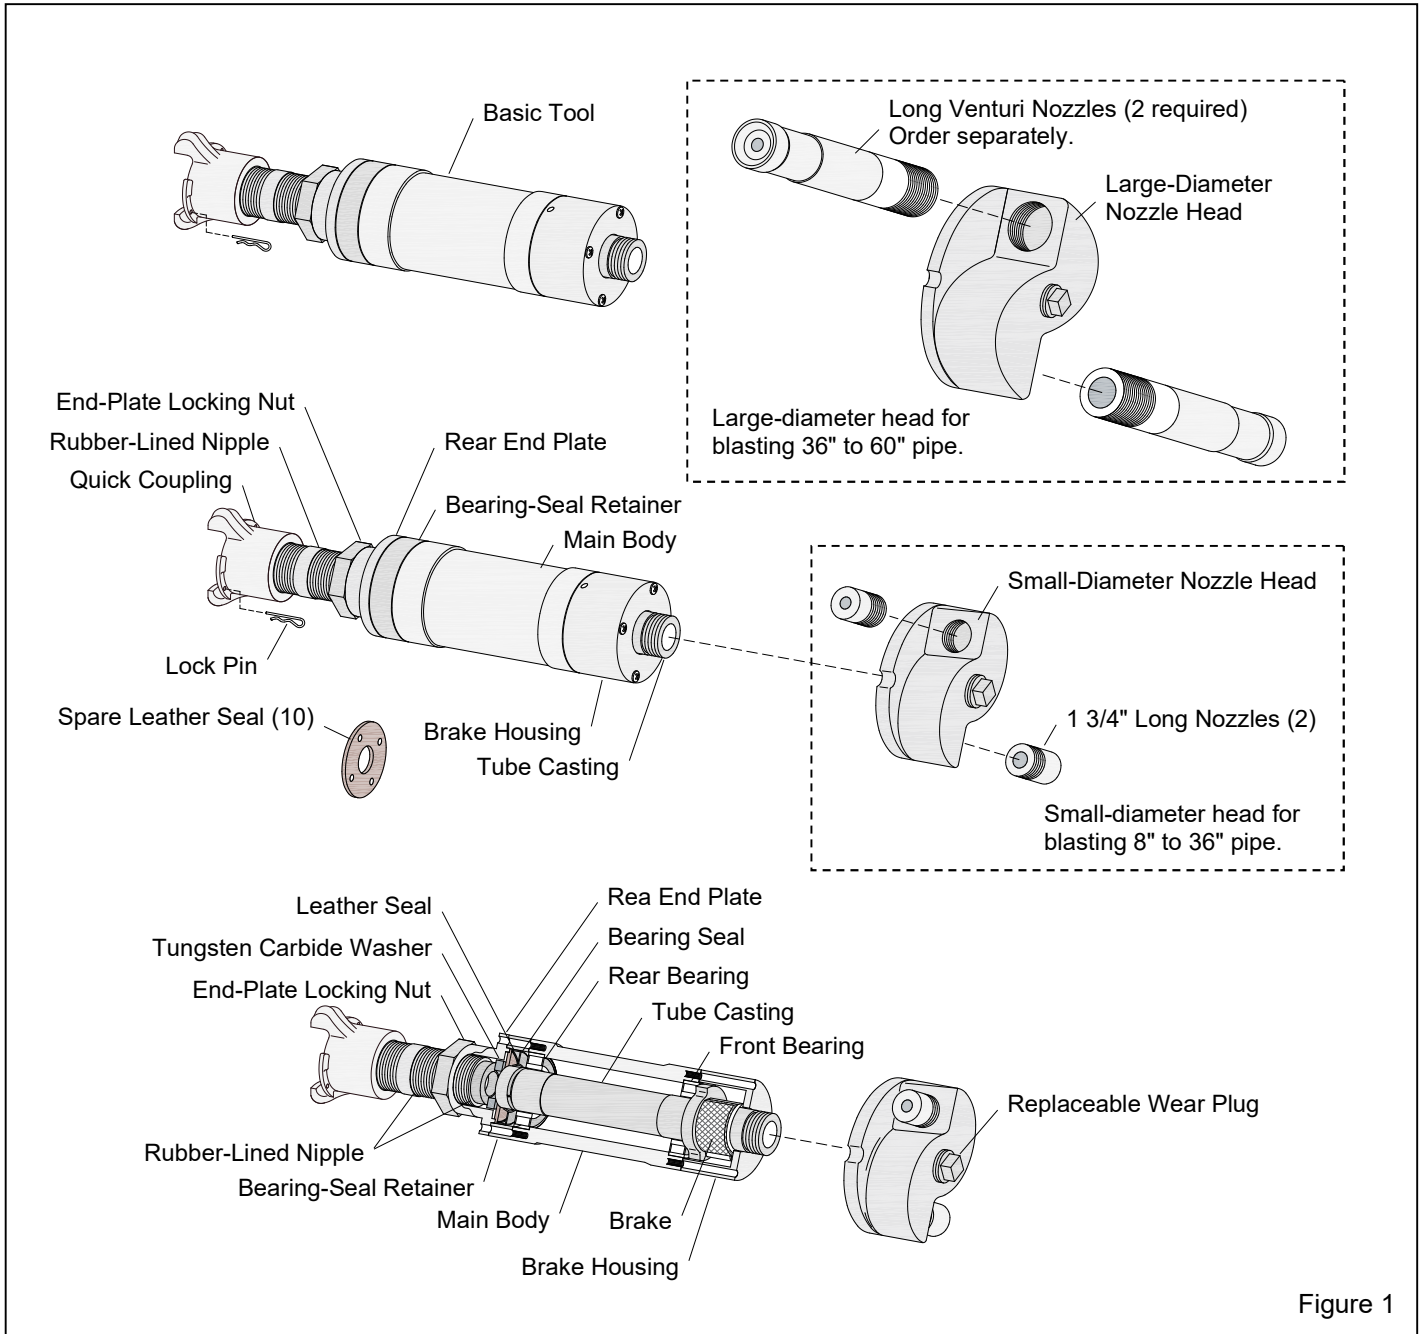

Figure 1
**2.1 Spin-Blast Components – Figure 1**
**2.1.1 For blasting 8" ID to 36" ID pipe:** The primary components of the 02601 Spin-Blast are shown in Figure 1 and include: The basic Spin-Blast Tool, 10 leather dust seals, small-diameter rotating nozzle-head, and two 1-3/4" long nozzles. 01408 1/4" orifice nozzles are provided unless others are specified at the time the order is placed. Optional nozzles are listed in *Section 11.5: Spin-Blast Replacement Parts*.
**2.1.2 For blasting 36" ID to 60" ID pipe:** The primary components of the 10547 Spin-Blast are shown in Figure 1 and include: The basic Spin-Blast Tool, 10 leather dust seals, large-diameter rotating nozzle-head, which utilizes two long venturi blast nozzles (ordered separately). Optional nozzles are listed in *Section 11.5: Spin-Blast Replacement Parts*.